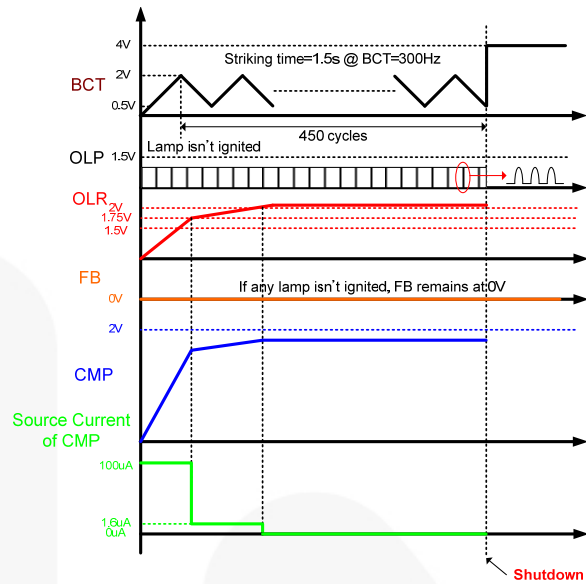
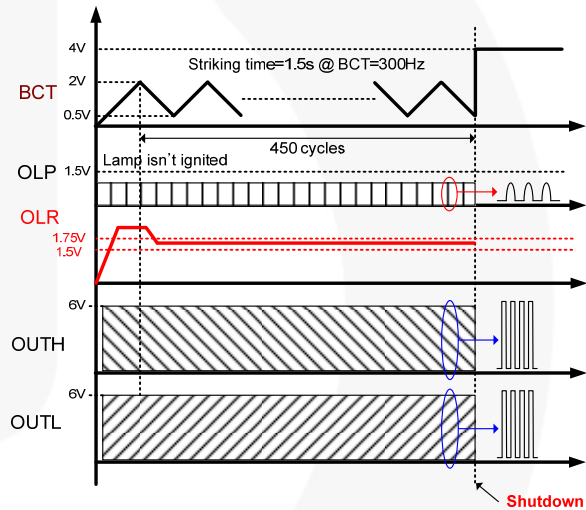

Figure 37. Open-Lamp Regulation in Striking Mode
Figure 38. Open-Lamp Regulation in Striking Mode
**Open-Lamp Regulation:** When a voltage higher than 2V is applied to the OLR pin, the IC enters regulation mode and controls CMP voltage. The IC limits the lamp voltage by decreasing CMP voltage. If the OLR voltage is higher than 1.75V, CMP source current decreases from 100μA to 1.6μA. If the OLR voltage reaches at 2V, CMP source current decreases to 0μA, so CMP voltage remains constant and the lamp voltage also remains constant, as shown in Figure 37. At the same time, the counter based on BCT time starts counting 450 cycles and 32 cycles at striking mode and normal mode, respectively, then the IC enters shutdown, as shown in Figure 38 and Figure 39.